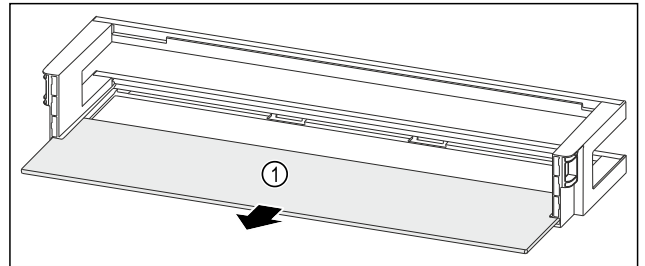

Fig. 120 Door rack with shelf
- Remove the shelf Fig. 120 (1).